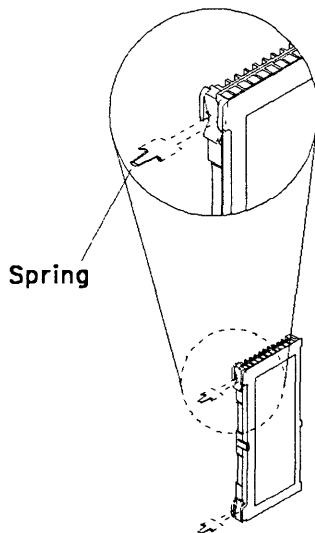

Figure 5-57. Shipping Springs
8. If present, remove the 'shipping springs' that secure the extractor levers by squeezing them together. Refer to Figure 5-57.
- a. Press the 'Function' key on the control panel until the 'MOSS IML' function (1) is displayed.
- a. If present, remove the 'shipping springs' that secure the extractor levers by squeezing them together. Refer to Figure 5-57 on page 5-61.